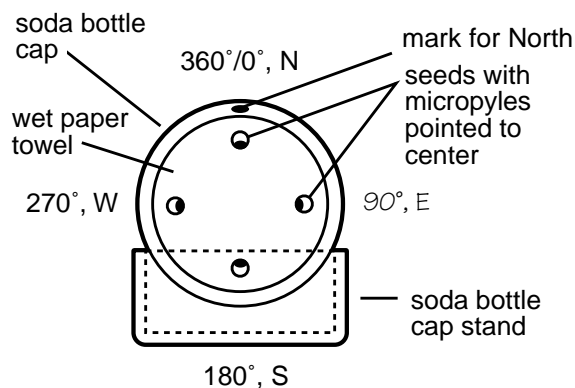

Figure 1: Front view of bottle cap seed germinator.
3. Orient the four seeds in north-south-east-west positions on the moist towel surface, making sure that the brown micropyle area (spot) is pointing toward the center of the cap (Figure 1).